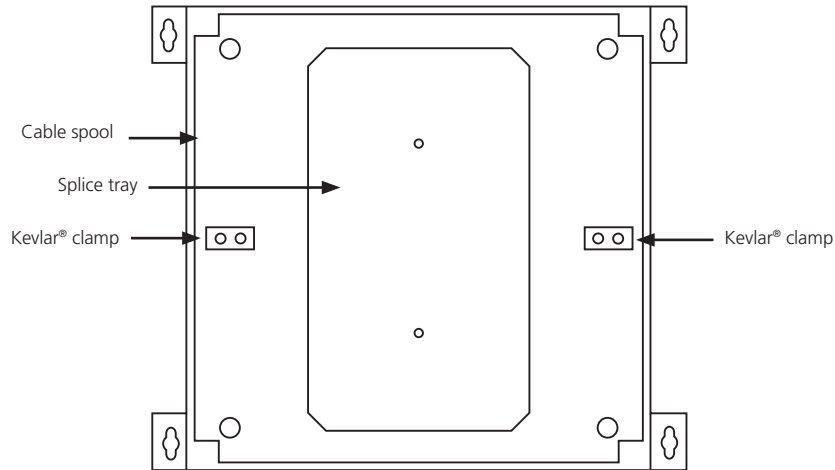

Figure 3. Inside of enclosure.
5. Inside the enclosure, strip back the fiber cable jacket to expose the Kevlar yarn. Use the Kevlar clamps to secure fiber cable to the enclosure. (See Figure 3.)